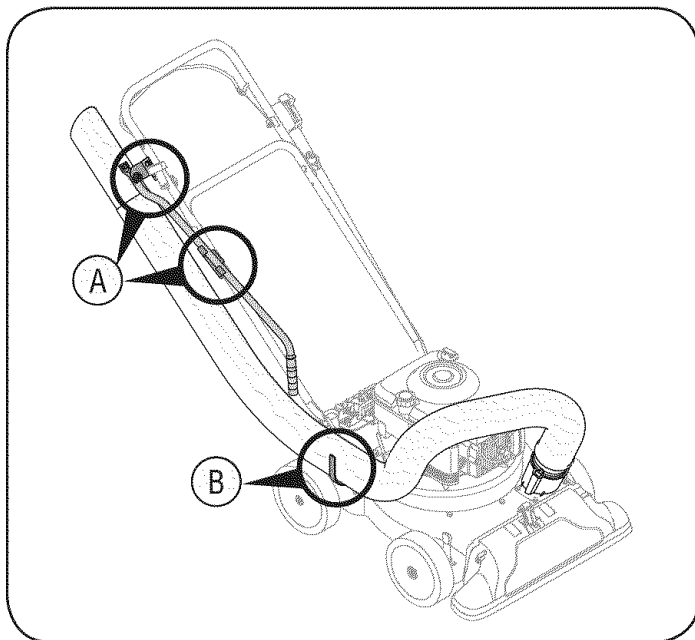

Figure 6
b. Lay hose tubing on hanger bracket next to chipper chute. See Figure 6.